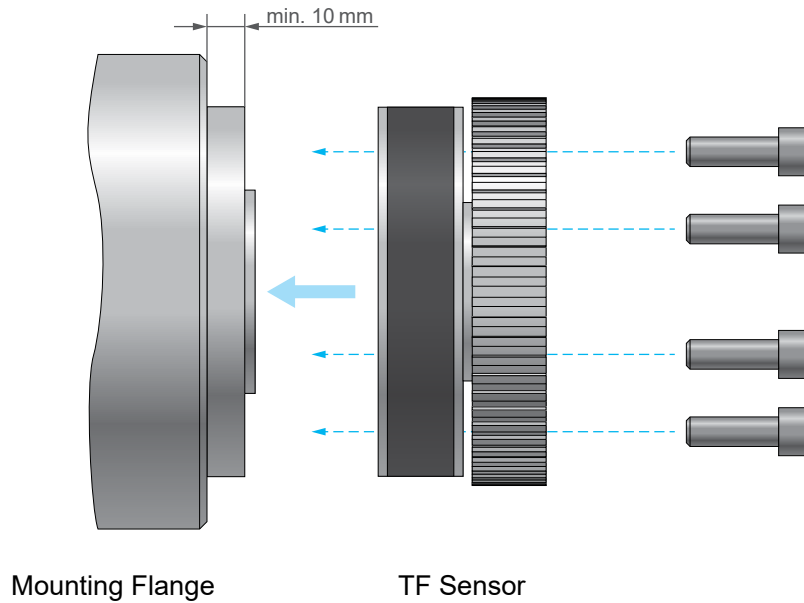

Fig.2-8 Measuring Flange Spacing
- A minimum distance of 10 mm between the main body of the mounting flange and its center piece (see Fig.2-8) is necessary to avoid any disturbance when transmitting the HF telemetry signal.